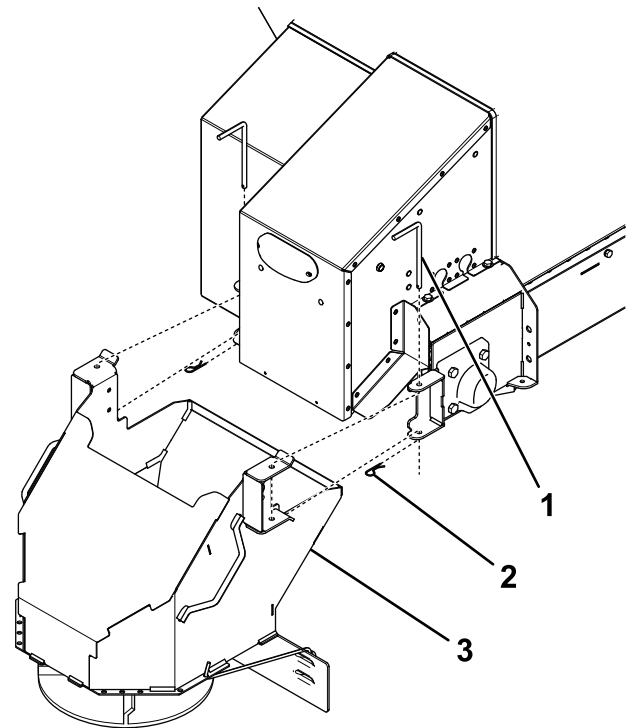

Figure 24
- Remove the 2 latch and cotter pins securing the spinner assembly to the hopper (Figure 24).